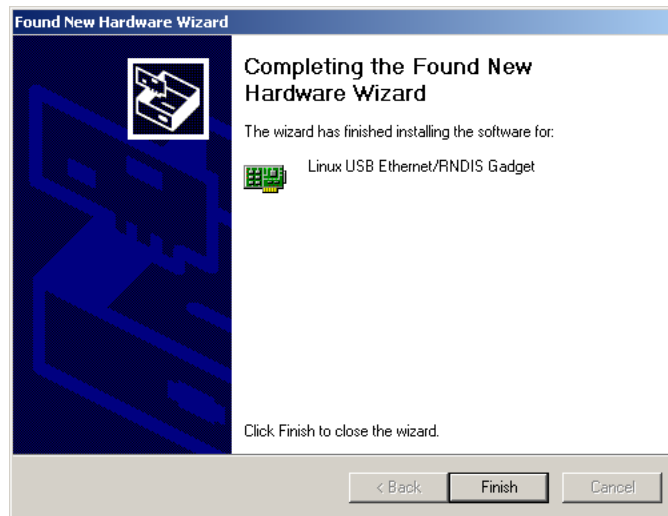

Figure 14. Found New Hardware Wizard – Completing the Found New Hardware Wizard Window
12. The wizard installs the software for the USB driver. The Found New Hardware Wizard – Completing the Found New Hardware Wizard window opens (see Figure 14).